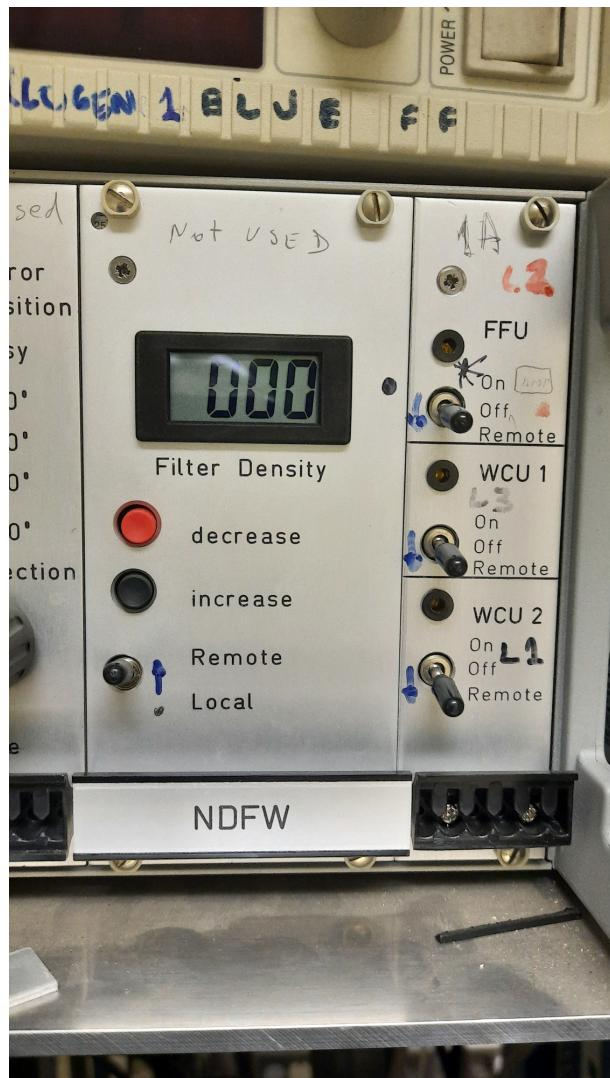

Figure 3.4: Settings for FEROS calibration lamps (FEROS room in telescope building).
- All lamps should be set to "Remote" in the electronic rack (Figure. 3.4, p. 42).